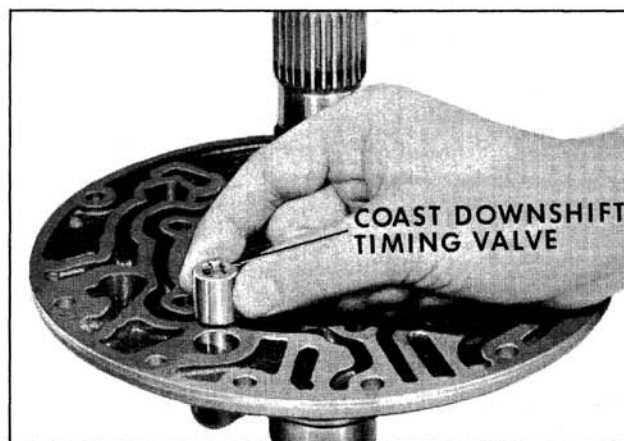

Fig. 6-414 Removing Coast Downshift Timing Valve
9. Remove coast downshift timing valve from the pump cover and inspect for damage. Carefully check to be sure the spring returns the ball to its seat. (Fig. 6-414)